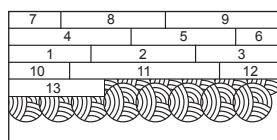

Figure 18
- Be sure not to spread adhesive too far ahead of your work area (Figure 18).